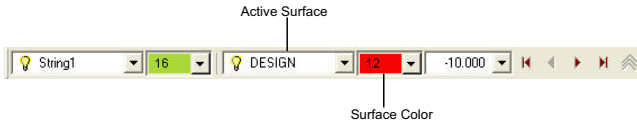

Figure 18-61. Properties Toolbar
1. Define the surface required in the report from the surface drop-down menu on the **Properties** toolbar (Figure 18-61).